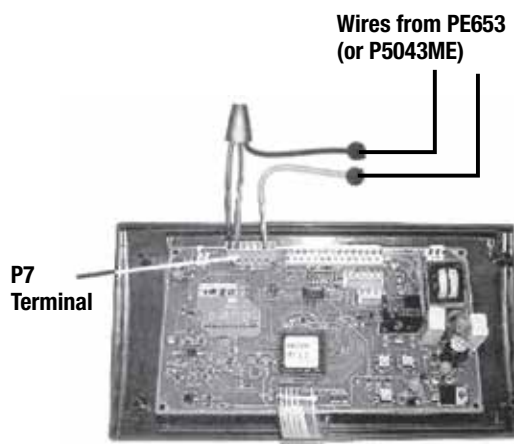

Figure 6-4. Typical wiring connections for Raypak Heaters.
6. Connect the yellow/black wire to the wire from terminal 9 on the PE653 (or from the hookup on the P5043ME). See Figure 6-4.